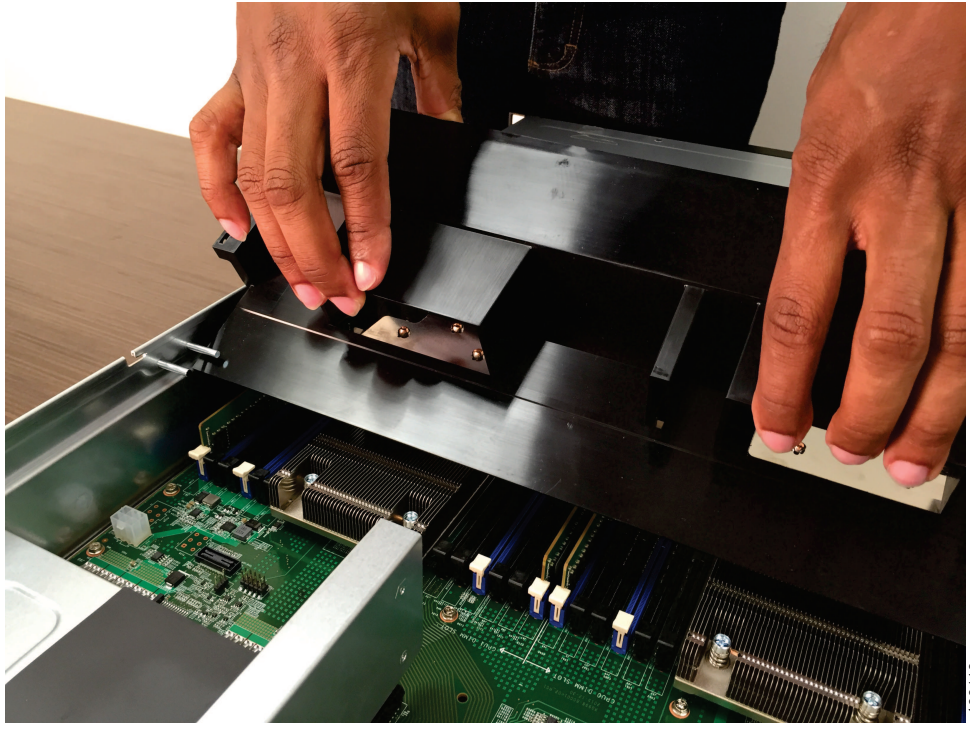

Figure 84. Aligning the air baffle
2. Hold the air baffle at a slight angle to align it within the sides of the chassis, as shown in Figure 84 on page 106.